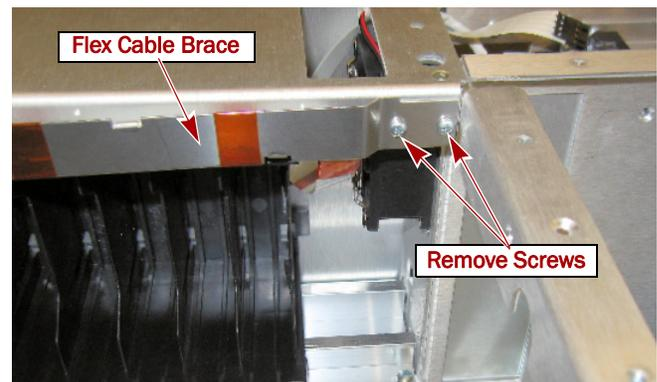

Figure 7. Location of the Flex Cable Brace Hexhead Screws
4. Remove and discard the two **screws** holding the Flex Cable brace to frame (Figure 7), and set it aside.
1. Using two new M3x6mm Hexhead screws, attach the new **Flex Cable Assembly** (Figure 7 on page 2) to the chassis frame.